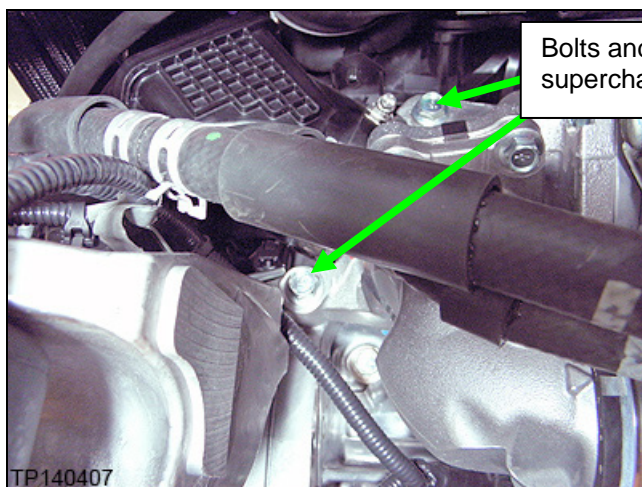
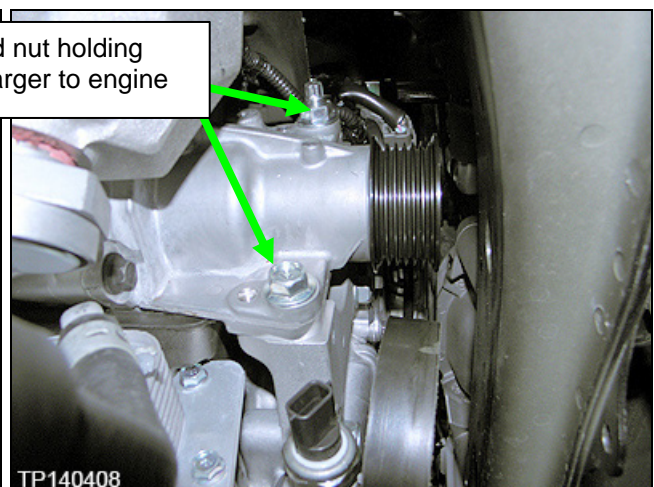

Figure 43
Figure 44
62. Remove the three bolts and one nut (Figure 43 and Figure 44) that attach the supercharger assembly to the engine.